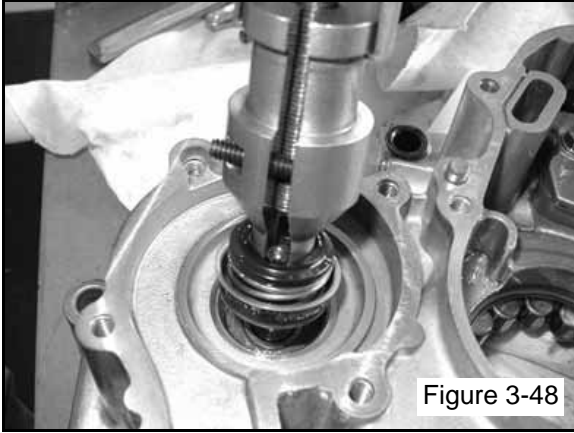

Figure 3-48
6. Turn the puller T-Handle clockwise until it contacts the water pump shaft. Continue rotating until the remaining portion of mechanical seal has been removed from the case. (Figure 3-48)